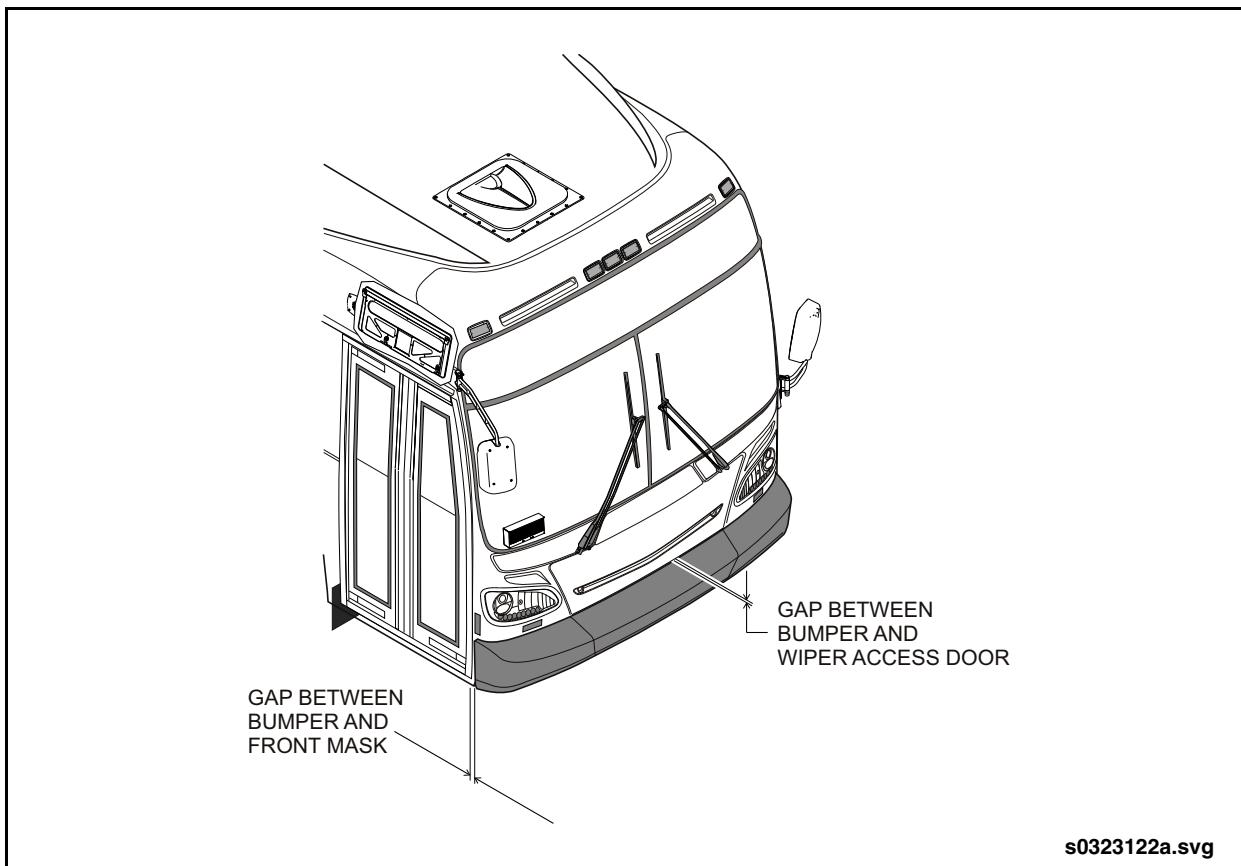

Fig. 13-11: Front Bumper Gap Adjustment
6. Snug up the bolts while simultaneously positioning the bumper to achieve a consistent vertical gap of 0.21 in. (5 mm). between the top of the bumper and the front mask/wiper access door. See "Fig. 13-11: Front Bumper Gap Adjustment" on page 36.